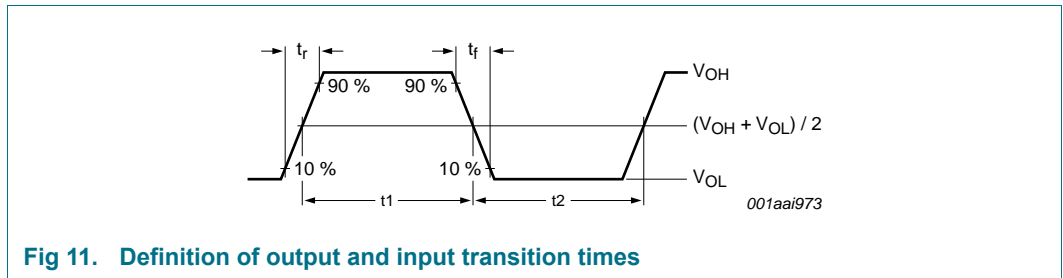

Fig 11. Definition of output and input transition times
- [5] The transition time and the duty factor definitions are shown in Figure 11 on page 21; $\delta = t_1 / (t_1 + t_2)$.